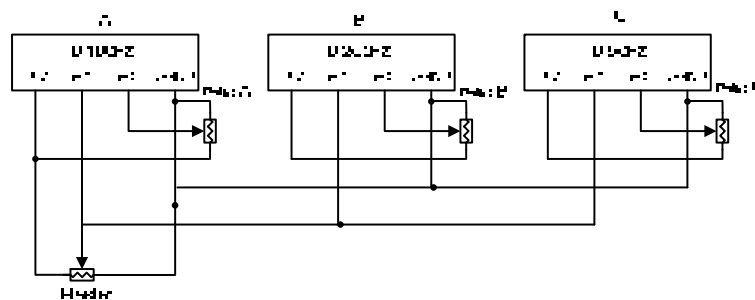

Figure 4.3.52 Example of F-Gain function
(3) F-Gain(04-16) :
- Please refer fig 4.3.52 for F- Gain function, this function provides the facility for setting the frequency reference to more than one inverter set by a master potentiometer then the master frequency can be scaled by three individual potentiometers for each inverter as show in the diagram below.